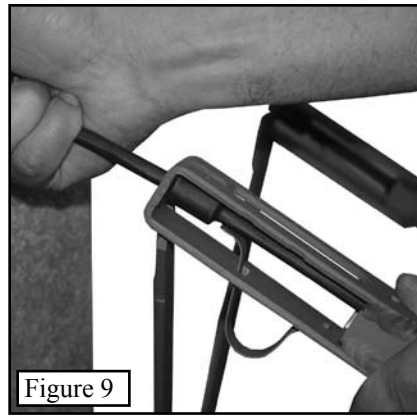

Figure 9
Step 3. Pull the cable towards the back of the tree and "seat" one of the cable stops against the back of the bracket, as shown in **Figure 9**. The QuickDraw cable spring will "lock" into place behind one of the cable stops.